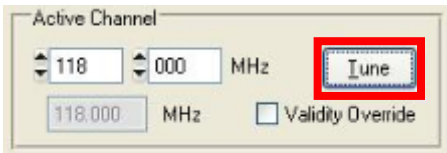

Figure 64 Setting Active Channel frequency
- 5) Set Mode 2 active channel frequency to 118.000 MHz, Click “Tune”. (Figure 64)